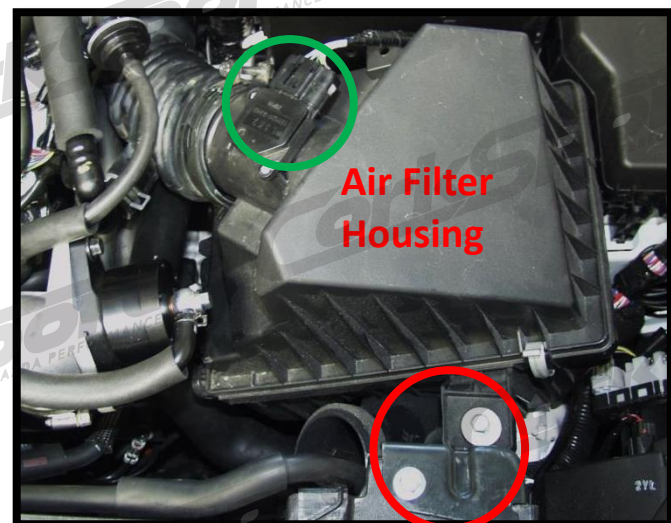

Figure 2c
- c) Unplug the MAF housing sensor located on the air filter housing (Figure 2c).
- d) Remove the two 10mm bolts on the air filter housing bracket and remove the bracket (Figure 2c).
- c) Unplug the MAF housing sensor located on the air filter housing (green circle in Figure 2c).
- d) Remove the two 10mm bolts on the air filter housing bracket and remove the bracket (shown in red circle in Figure 2c).
- p) Replace the two 10mm bolts on the air filter housing bracket (shown in red circle in Figure 2c).
- q) Plug in the MAF housing sensor located on the air filter housing (green circle in Figure 2c).